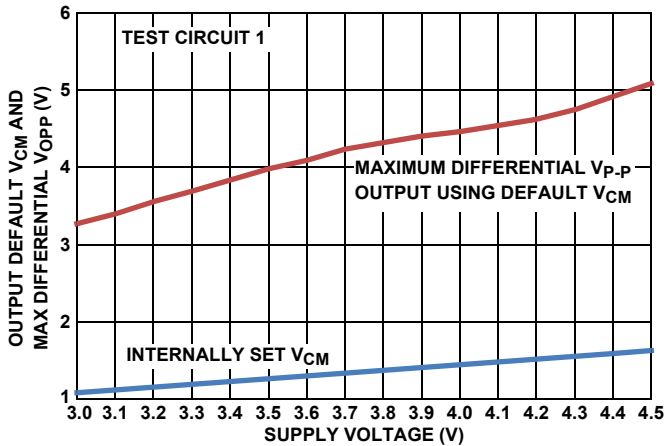
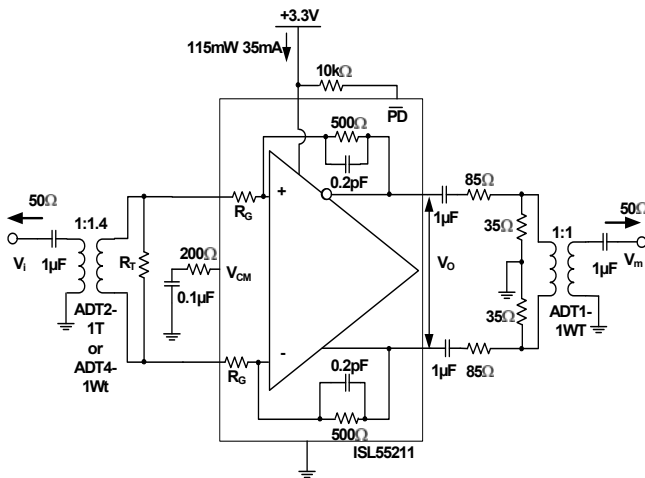
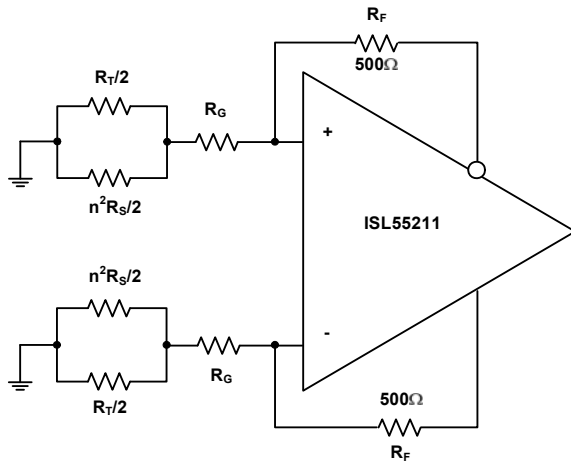
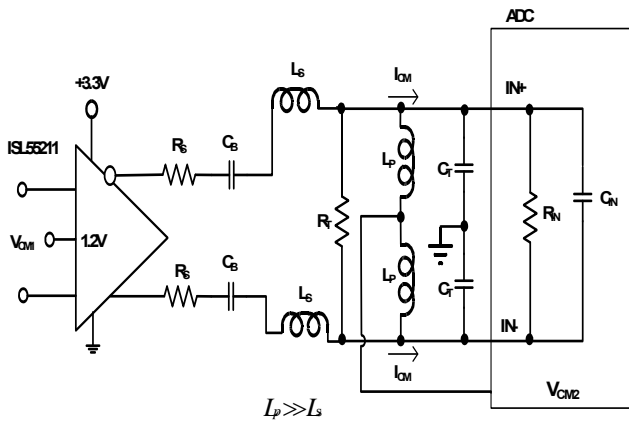

FIGURE 27. DEFAULT  $V_{CM}$  AND MAX  $V_{OPP}$  vs SUPPLY VOLTAGE
FIGURE 29. TEST CIRCUIT 1
FIGURE 35. NOISE GAIN MODEL FOR THE TRANSFORMER COUPLED INPUT CIRCUIT OF FIGURE 29
FIGURE 37. AC-COUPLED, HIGHER FREQUENCY RLC INTERSTAGE FILTER DESIGN
Test Circuit 1 of Figure 29 forms a starting point for many of the characterization curves for the ISL55211. Since most lab sources and measurement devices are single-ended, this circuit converts to differential at the input through a wideband transformer and would also be a typical application circuit coming from a single-ended source. Assuming the source is a 50 $\Omega$  impedance, the internal  $R_G$  resistors and external  $R_T$  are set to provide both the input termination and the gain. Since the inverting summing nodes act as virtual ground points for AC signal analysis, the total termination impedance across the input transformer secondary will be  $(2 * R_G) || R_T$ . Setting this equal to  $n^2 * R_S$  will give a matched input impedance inside the bandwidth of the transformer (where "n" is the turns ratio). The amplifier gain is fixed by the selected input  $R_G$  element and the internal 500 $\Omega$  feedback resistors. While the ISL55211 is internally a Voltage Feedback Design (VFA) to give the lowest possible noise, internal compensation caps hold the bandwidth over gain setting approximately constant at 1.4GHz. For wider small signal bandwidth at lower gains, consider the ISL55210, which provides >2.2GHz at a gain of 12dB.
Working with a transformer coupled input as shown in Figure 29, or with two DC blocking caps from a differential source, means the output common mode voltage set by either the default internal  $V_{CM}$  setting, or a voltage applied to the  $V_{CM}$  control pin, will also appear as the input common mode voltage. This provides a very easy way to control the ISL55211 I/O common mode operating voltages for an AC-coupled signal path. The internal common mode loop holds the output pins to  $V_{CM}$  and, since there is no DC path for an  $I_{CM}$  current back towards the input in Figure 29, that  $V_{CM}$  setting will also appear as the input common mode voltage. It is useful, for this reason, to leave any input transformer secondary centertap unconnected. The internally set  $V_{CM}$  voltage is referenced from the negative supply pin. With a single 3.3V supply, it is very close to 1.2V but will change with total supply voltage across the device as shown in Figure 27.
Most of the characterization curves starting with Figure 29 then get different gains by changing the connections to the two pairs of input  $R_G$  connections, as shown on the pin configuration drawing on page 2. Two input turns ratios are intended for Test Circuit 1; either a 1:1.4 turns ratio (ohms ratio of 2) or a 1:2 turns ratio (ohm ratio of 4). The specific transformers shown in Figure 29 are representative of broadband RF transformers but alternate devices and manufacturers of these turns ratio devices are certainly applicable. The output side of this test circuit presents a differential 200Ω load while converting the differential to single-ended through a resistive attenuator and a 1:1 transformer. This inserts approximately a 17dB insertion loss that is removed to report the characteristic curves. For load tests below the 200Ω shown in Figure 29, a simple added shunt resistor is placed across the output pins. For loads > 200Ω, the series and shunt load R's are adjusted to show that total load (including the 50Ω measurement load reflected through the 1:1 output measurement port transformer) and provide an apparent 50Ω differential source to that transformer. This output side transformer is for measurement purposes only and is not necessary for final applications circuits. There are output interface designs that do benefit from a transformer as part of the signal path as shown in Figure 1. In that case, the 1:1.4 output side transformer becomes part of a filter design and recovers the filter insertion loss from the amplifier output pins to the ADC inputs.
The characterization circuit of Figure 29 shows one possible input stage interface that offers several advantages. Where AC coupling is adequate, the circuit of Figure 29 simplifies the input common mode voltage control. If the source coming into this stage is single-ended, the input transformer provides a zero power conversion to differential. The two gain resistors ( $R_G$  in Figure 29) provide both a portion of the input termination impedance and the gain element for the amplifier. For 50Ω systems, these  $R_G$  resistors are too high with the turns ratios shown in Figure 29 to provide the full match and an external  $R_T$  resistor is required. This  $R_T$  element goes away at the highest gain setting using a 1:2 input turns ratio transformer.
This input interface also simplifies the input common mode control. The  $V_{CM}$  pin controls the output common mode voltage. In most DC-coupled FDA applications, the input common mode voltage is determined by both this output common mode and the source signal. In a configuration like Figure 29, there is no path for a common mode current to flow from output to input, so the input common mode voltage equals the output. A similar effect could be achieved with just two blocking caps on the two  $R_G$  resistors. A DC-coupled, single to differential, configuration will also have a common mode input that is moving with the input signal. Converting to just a differential signal at the amplifier, as in Figure 29, removes any input signal related artifacts from the input common mode making the ISL55211 behave as a differential only VFA amplifier. There is only a very small differential error signal at the inputs set by the loop gain, as in a
of 1.3V for instance, then  $1.3V + 0.9V + 1.5V = 3.7V$  will give an unclipped 3.6VP,P output capability. The  $V_{P,P}$  reported in Figure 27 is an asymmetrically clipped maximum swing. Going 10% above this 3.7V target to 4.1V will be within the recommended operating range and give some tolerancing headroom that would also suggest the  $V_{CM}$  voltage be moved up to approximately 1.5V, which coincides with the default output  $V_{CM}$  from Figure 27. Operating at +4.1V single supply in a Figure 29 type configuration will give the maximum linear differential output swing of 3.6VP,P.
The differential inputs internal to the ISL55211 also have operating range limits relative to the supply voltages. Operating in an AC-coupled circuit like Figure 29 will produce an input common mode voltage equal to the outputs. The inputs can operate with full linearity with this  $V_{CM}$  voltage down to 1.1V above the  $-V_S$  supply. On the default 1.2V output  $V_{CM}$  on +3.3V supplies this gives a 100mV guardband on the input  $V_{CM}$  voltages. Overriding the default  $V_{CM}$  by applying a control voltage to the  $V_{CM}$  pin should be done with care in going towards the negative supply due to this limit. On the + side, the maximum input  $V_{CM}$  above the  $-V_S$  supply is 2V so there is more room to move the output  $V_{CM}$  up than down from the default value.
+85°C maximum operating ambient from Figure 27, we get  $4.5V \times 45mA \times 120^\circ C/W = +24^\circ C$  rise above +85°C or approximately +109°C operating  $T_j$  maximum - still well below the specified Absolute Maximum operating junction temperature of +135°C.
Adding an input transformer can improve the input referred noise by adding a noiseless voltage gain. Starting from Test Circuit 1 of Figure 29, and assuming the source shows a matched broadband source  $R_S$  that will be matched by the input referred parallel combination of  $2 * R_G || R_T$ , a noise gain analysis circuit can be developed as shown in Figure 35.
Stepping through the 3 gain settings with two input transformers will allow the noise gain to be calculated for the circuit of Figure 35, which is all that is needed in Equation 1 to arrive at an output differential noise (since  $R_F$  is fixed at 500 $\Omega$ ). Doing this gives Table 4.
2. AC-coupled, higher frequency range interstage filter design. This design replaces the  $R_T$  resistors in Figure 35 with large valued inductors and implements the filter just using shunt resistors at the end of the RLC filter. In this case, the ADC  $V_{CM}$  can be tied to the centerpoint of the bias path inductors (very much like a Bias-T) to provide the common mode voltage and current to the ADC inputs. These bias inductors do limit the low frequency end of the operation where, with  $1\mu\text{H}$  values, operation from 10MHz to 200MHz is supported using the approach of Figure 37.